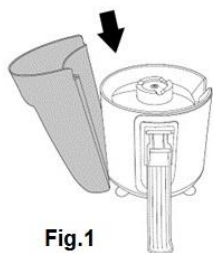

Fig.1
3. Tilt the pulp collection container and align with the lug at the bottom of the motor housing (Fig. 1).